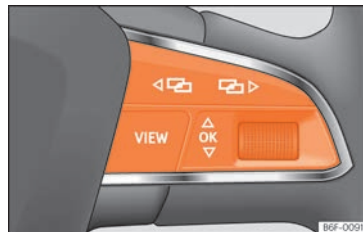

Fig. 114 Right side of multifunction steering wheel: buttons to the menus and informative indications on the instrument panel.
As long as a priority 1 **»» page 104** warning is active, it will not be possible to access any menu. Some warnings can be confirmed and hidden with the button  of the multifunction steering wheel **»» Fig. 114**.
- If a message or vehicle symbol is displayed, press the button **OK** »» Fig. 114; if necessary, several times.
- To change menus, use buttons **<** or **>** »» Fig. 114.
- To open the menu or the information displayed, press the button **OK** »» Fig. 114 or wait a few seconds until the menu or the informative display opens automatically.
- In the menu displayed, turn the right thumbwheel of the multifunction steering wheel »» Fig. 114 until the desired option of the menu is highlighted. The option appears framed.
- Press the button **OK** »» Fig. 114 to make the required modifications. A mark indicates that the system or function is activated.
Press the button **<** or **>** »» Fig. 114.